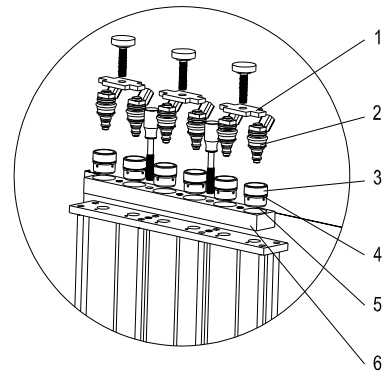

Fig. 07
- 5) Choose a proper lower coupler (such as hexagonal wide sleeve, hexagonal narrow sleeve, etc.) according to the shape of the injector and put it under the injector. See Fig. 07.